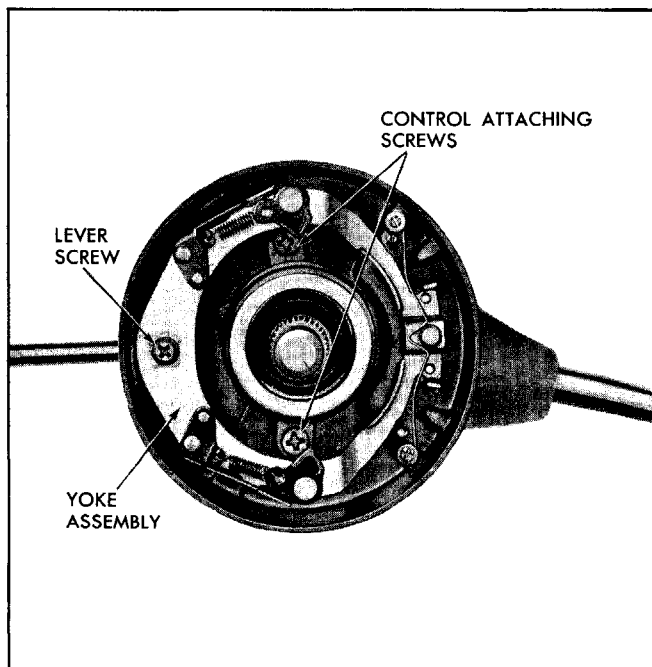

Fig. 7-9 Directional Signal Control
3. Remove steering wheel hub cover or direction signal housing by removing two attaching screws (Fig. 7-9). When removing direction signal housing, withdraw wiring harness carefully from opening in steering column.